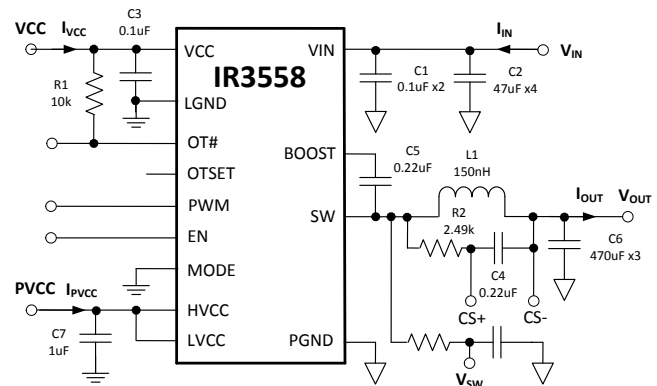

Figure 32: IR3558 Power Loss Measurement
Circuit of Figure 32,  $V_{IN}=12V$ ,  $V_{OUT}=1.2V$ ,  $f_{SW}=400kHz$ ,  $L=150nH$  ( $0.29m\Omega$ ),  $V_{CC}=5V$ ,  $HV_{CC}=LV_{CC}=7V$ ,  $T_{AMB}=25^{\circ}C$ , no heat sink, no air flow, 8-layer PCB board of 3.7" (L) x 2.6" (W), no PWM controller loss, no inductor loss, unless specified otherwise.
Circuit of Figure 32,  $V_{IN}=12V$ ,  $V_{OUT}=1.2V$ ,  $f_{SW}=400kHz$ ,  $L=150nH$  (0.29mΩ),  $V_{CC}=5V$ ,  $HV_{CC}=LV_{CC}=7V$ ,  $T_{AMB}=25^{\circ}C$ , no heat sink, no air flow, 8-layer PCB board of 3.7" (L) x 2.6" (W), no PWM controller loss, no inductor loss, unless specified otherwise.
Circuit of Figure 32,  $V_{IN}=12V$ ,  $V_{OUT}=1.2V$ ,  $f_{SW}=400kHz$ ,  $L=150nH$  ( $0.29m\Omega$ ),  $V_{CC}=5V$ ,  $HVCC=LVCC=7V$ ,  $T_{AMB}=25^{\circ}C$ , no heat sink, no air flow, 8-layer PCB board of 3.7" (L) x 2.6" (W), no PWM controller loss, no inductor loss, unless specified otherwise.
The single-phase IR3558 efficiency and power loss measurement circuit is shown in Figure 32.